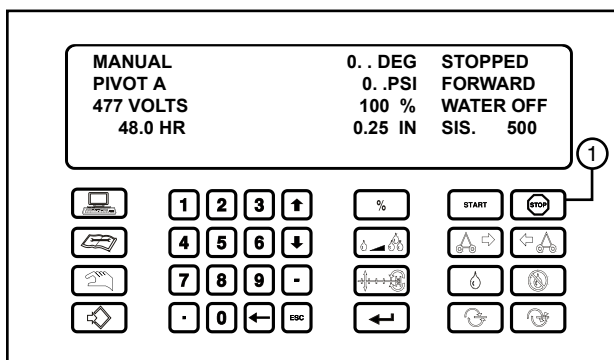

Figure 72-3 1. Stop Key
15. After the latches are closed press . See Figure 72-3.